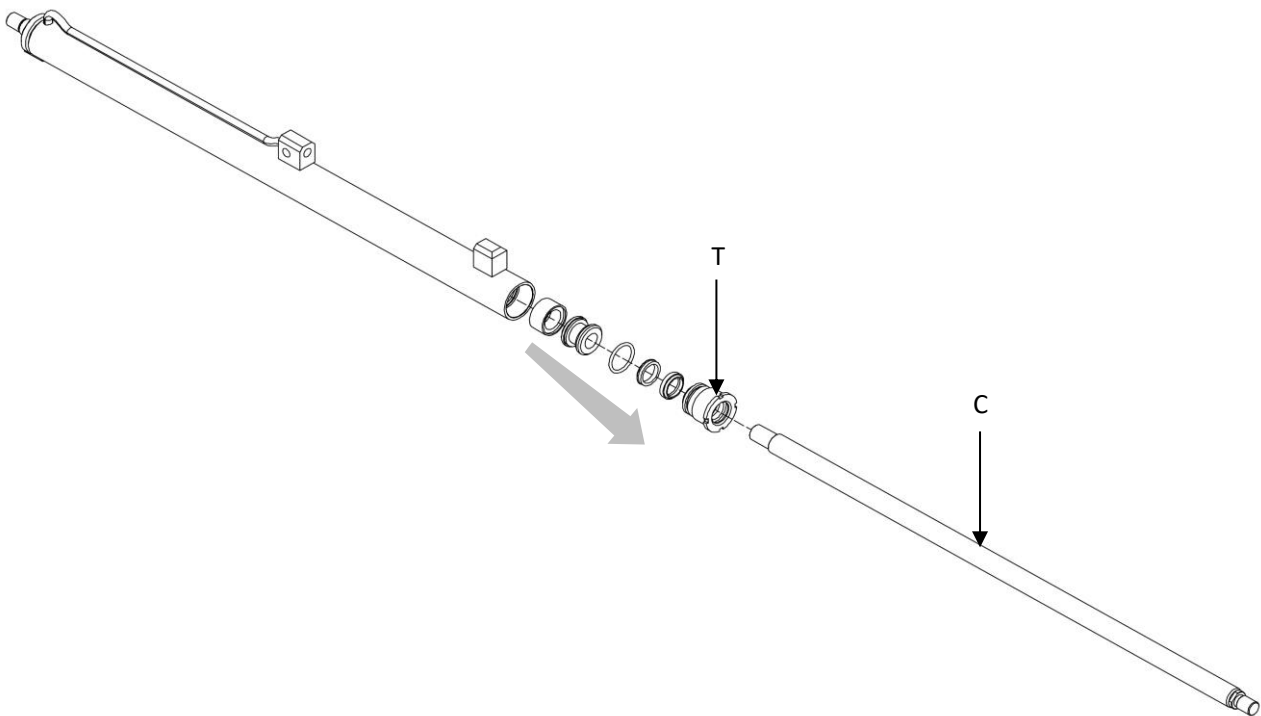

Figure 38
8. Use *Figure 38* as a guide.